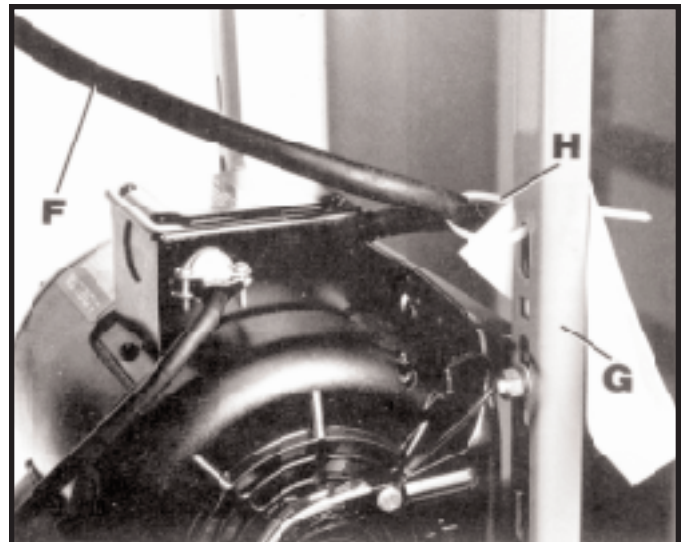
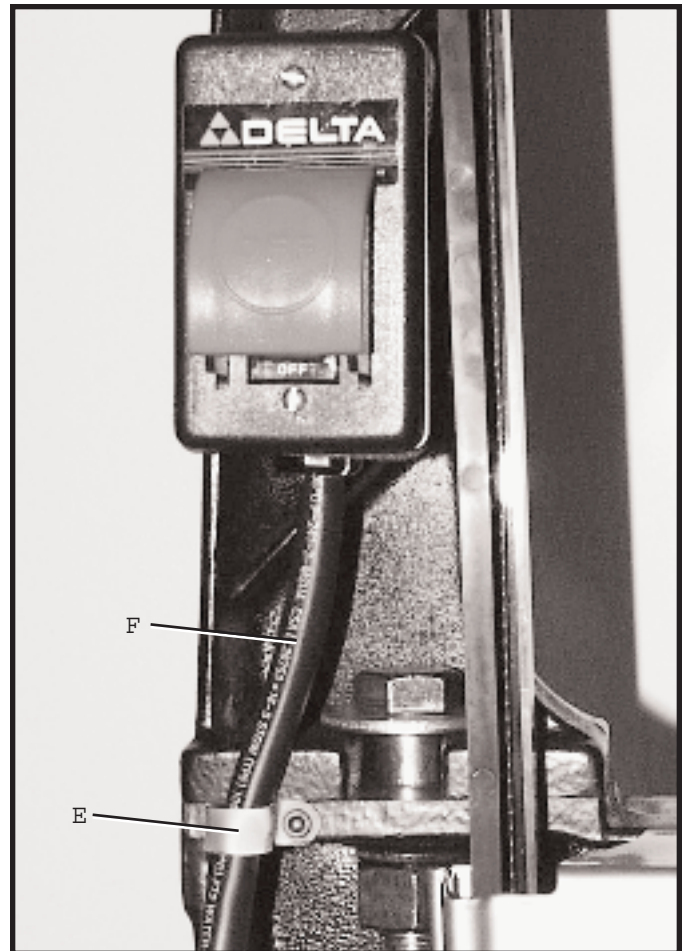

Fig. 18
Fig. 21
2 CAUTION: THE ON/OFF SWITCH-TO-MOTOR CORD (F) FIG. 18, IS TIED TO VERTICAL MOUNTING POST (G) OPPOSITE THE MOTOR PULLEY. THIS CABLE TIE (H) PREVENTS THE SWITCH-TO-MOTOR CORD (F), FROM CONTACTING THE BELT OR MOTOR PULLEY DURING OPERATION. IMPORTANT: DO NOT REMOVE THIS CABLE TIE UNLESS YOU ARE USING THE ACCESSORY #28-984 HEIGHT ATTACHMENT WITH THE BAND SAW .
6. Remove screw and cable clamp (E) Fig. 21, from lower arm of band saw.
7. Insert switch cord (F) Fig. 21, into clamp (E) which was removed in STEP 6, and fasten switch cord (F) to band saw as shown. IMPORTANT: CHECK AND MAKE CERTAIN THE ON/OFF SWITCH-TO-MOTOR CORD (F) FIG. 18, IS NOT CONTACTING MOTOR PULLEY OR BELT. ADJUST CORD (F) FIG. 18, IF NECESSARY, THEN TIGHTEN CABLE TIE (H).